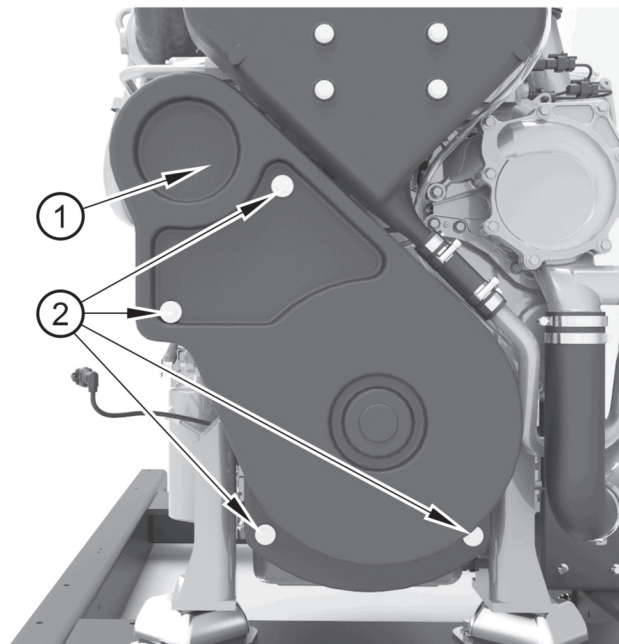

Figure 40
To gain access to the vibration damper (figure 40 item 1), remove the 4 bolts (item 2) holding the belt cover in place.